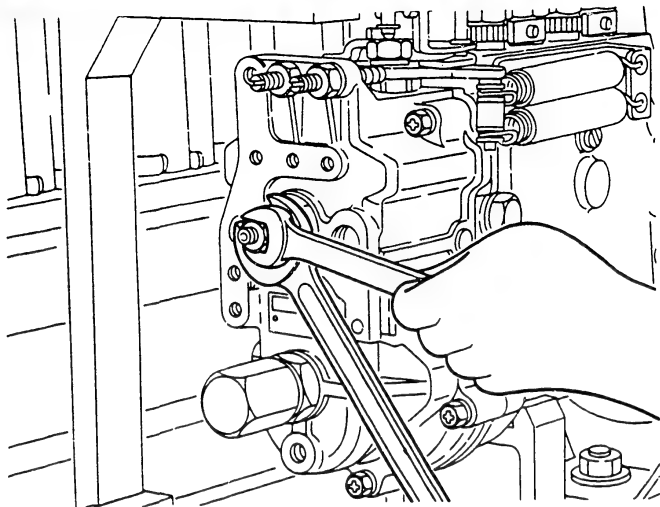

Fig. 144 Adjustment of the governor springs
- 3) Adjust the nut (145) with the pump speed fixed at N_c rpm so that the control rack will be at position R_d mm, and then lock it to the governor shaft (140) with the nut (146). (Figs. 144 and 145)